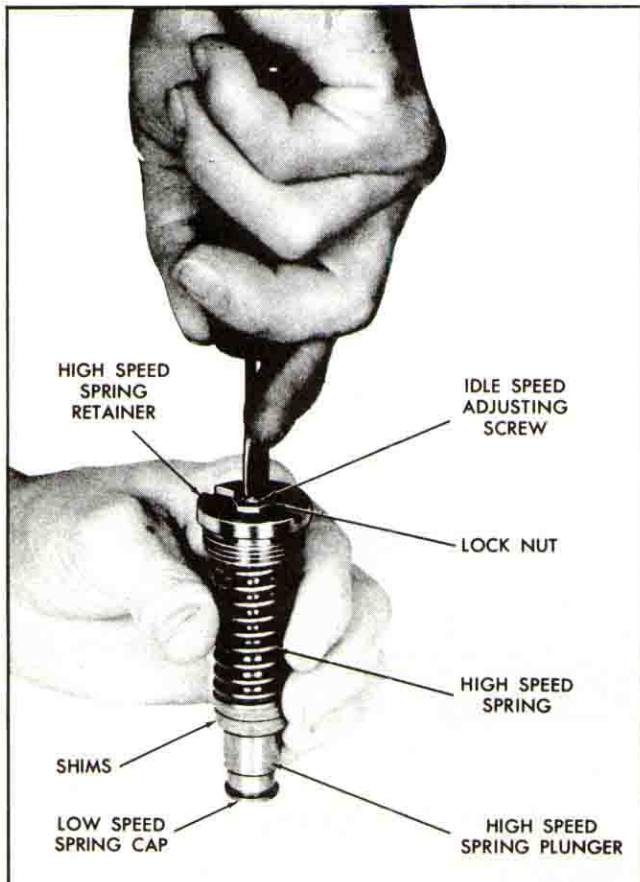

Fig. 13 - Adjusting High Speed
3. While holding the plunger firmly, as shown in Fig. 13, remove the idle speed adjusting screw from the high speed spring plunger.